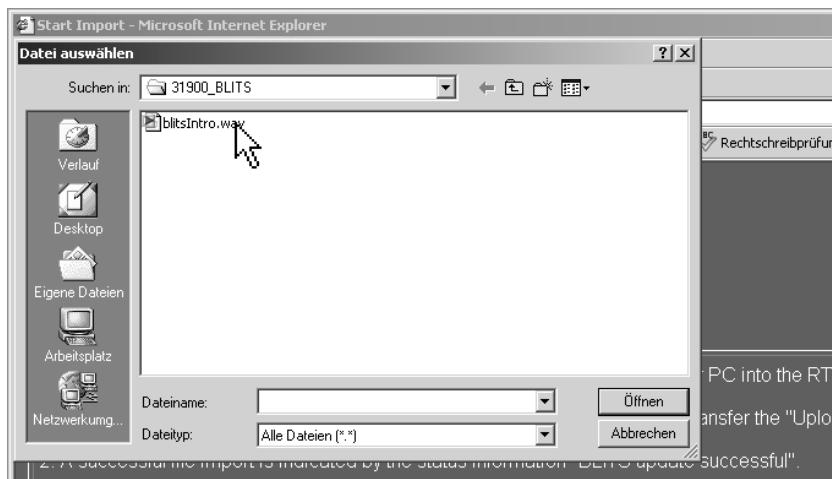

Fig. 8-29: The BLITS file selection dialog box (blitsIntro.wav)
4. Choose the folder (e. g.: C:\31900_BLITS) with the ident intro wave file and click the file e. g. blitsIntro.wav (see Fig. 8-29).